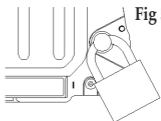

Fig 5
- The lid can be padlocked in the closed position, using the boss provided (see figure 5).